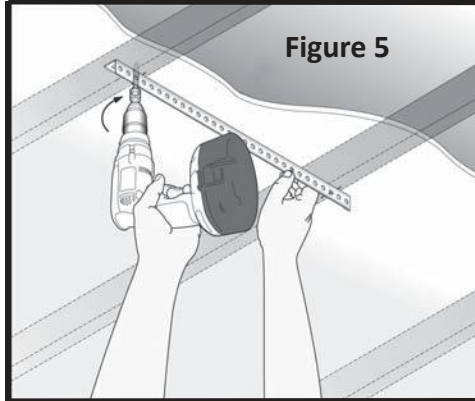

Figure 5
**Step 4:** Securely fasten each end of the angle to the ceiling joists/beams using (2) 5/16"x1-5/8" Lag Bolts (Figure 5 & 6).